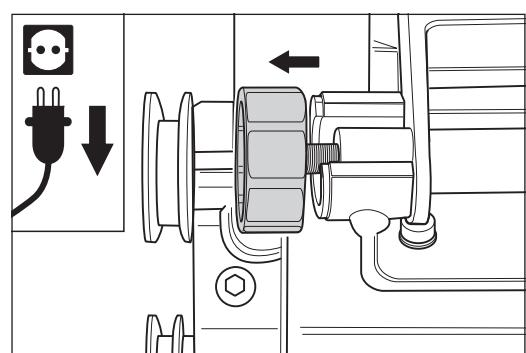

Fig. 30 ... until the two nuts used to fit into the motor bearing bracket are exposed.
- 8 Release the motor nuts (Fig. 29). The motor nut must only be backed out from the fitting between the motor nut and motor bearing bracket, and not completely removed (Fig. 30).